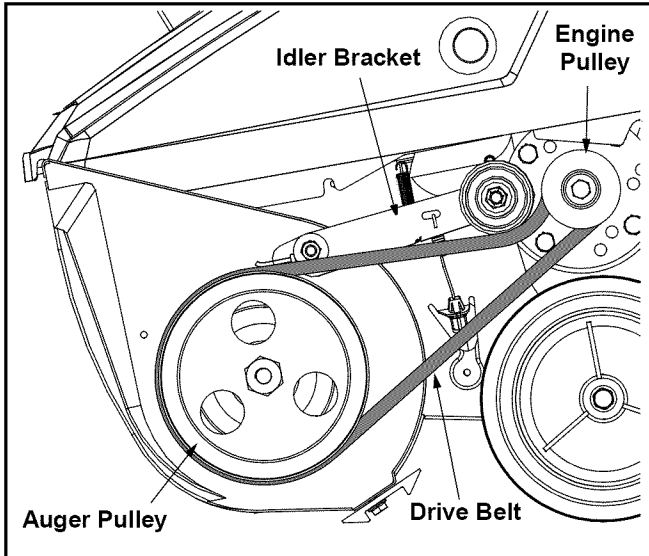

Figure 7
- Gently grasp the idler bracket and pivot it upward to ease tension on the drive belt. See Figure 7.
- While holding the idler bracket up, carefully slip the drive belt off the engine pulley. See Figure 7.
- Carefully slip the drive belt off the auger pulley, freeing it from the snow thrower. See Figure 7.